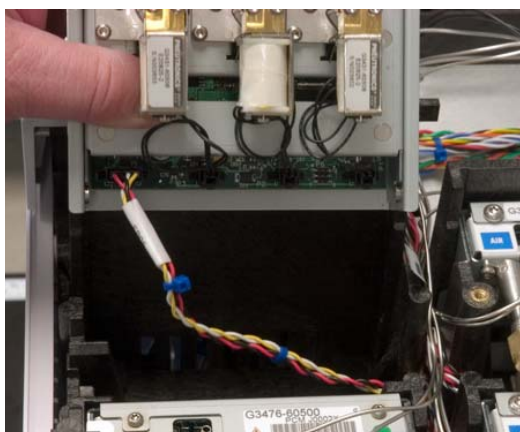

Figure 3.11. Installing the EPC module
4. Slide the module into the vertical slot tracks. Arrange the cable to prevent it from being pinched by the EPC module (Figure 3.11).